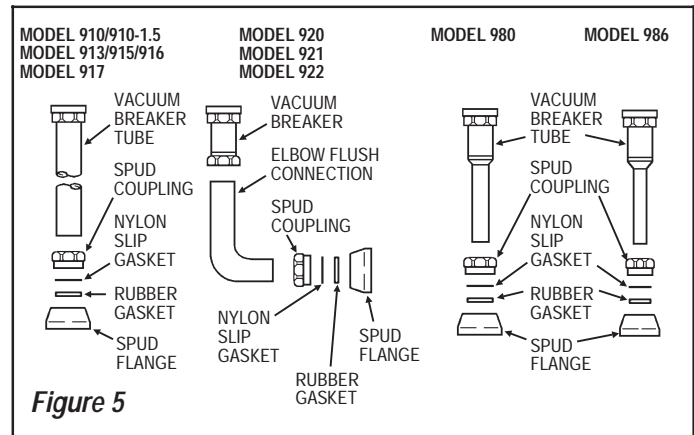

Figure 5
Step 2 — Install Vacuum Breaker Flush Connection (Figure 5)